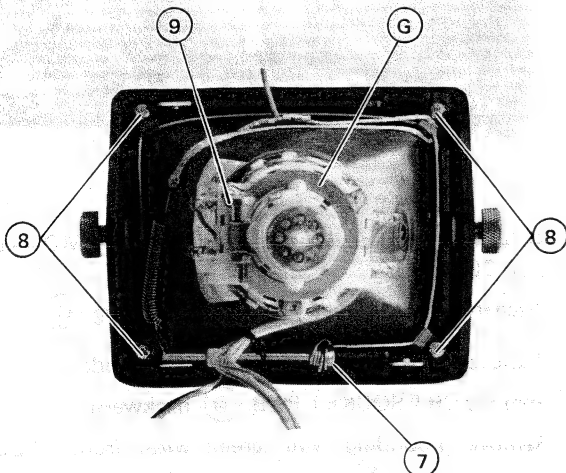

Fig. 3-8
7. Remove the connectors (E) and (F).
8. Remove CRT with the escutcheon panel as shown in Fig. 3-8.